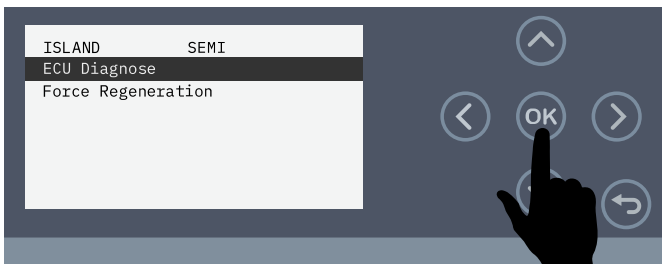

Figure 145. Select ECU Diagnose
3. Make sure **ECU Diagnose** (Figure 145) is highlighted on the display, then press the **OK button**.